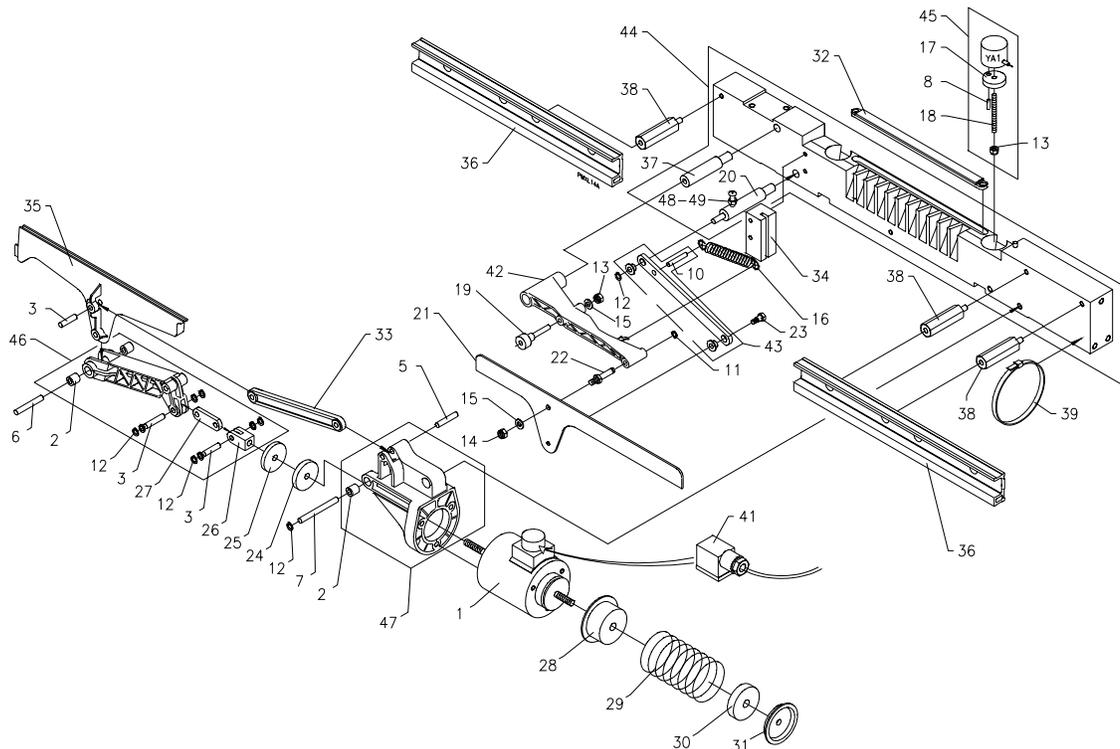
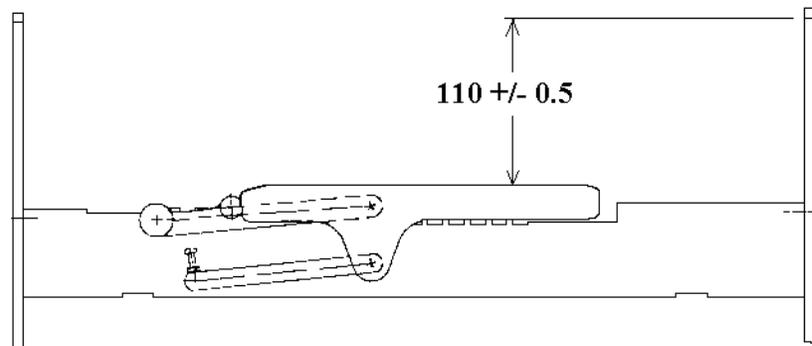
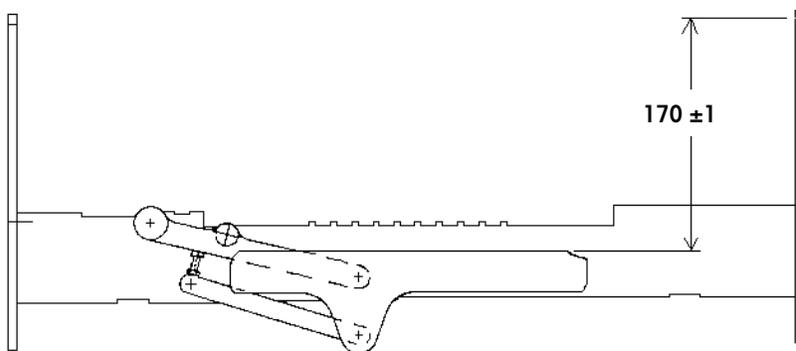

Figure 7-38
Figure 7-39
Figure 7-40: Film Lifter Low Position Adjustment
To replace a broken film lift lever, proceed as follows (Refer to Figure 7-38):
2. Disconnect the film lifter tension spring (Item 16, Figure 7-38).
3. This distance should be 110 ± 0.5 mm on both ends see Figure 7-39. If these measurements are not correct, loosen the retaining nut (Item 14, Figure 7-38).
3. This distance should be $170.0 \pm 0.5\text{mm}$ (See Figure 7-40). If this measurement is not correct, loosen the jam nut holding the stop screw (Item 48, Figure 7-38) in place.